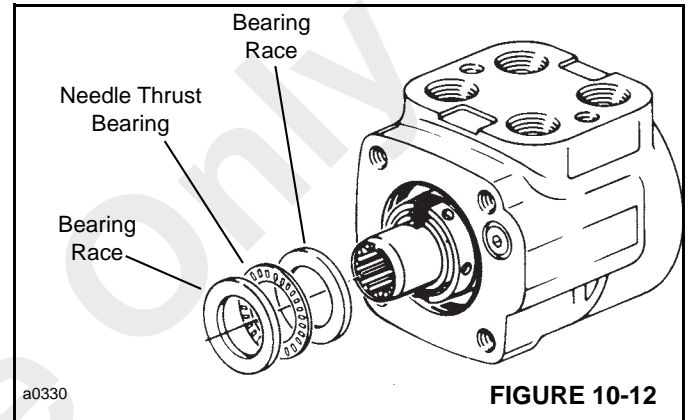

FIGURE 10-12
7. Remove quad seal (5) from gland bushing (3).
8. Use a thin bladed screwdriver to pry dust seal (1) from gland bushing (3). Do not damage the gland bushing.
9. Remove needle bearing kit (6). The kit consists of two bearing races and a needle thrust bearing. See Figure 10-12.